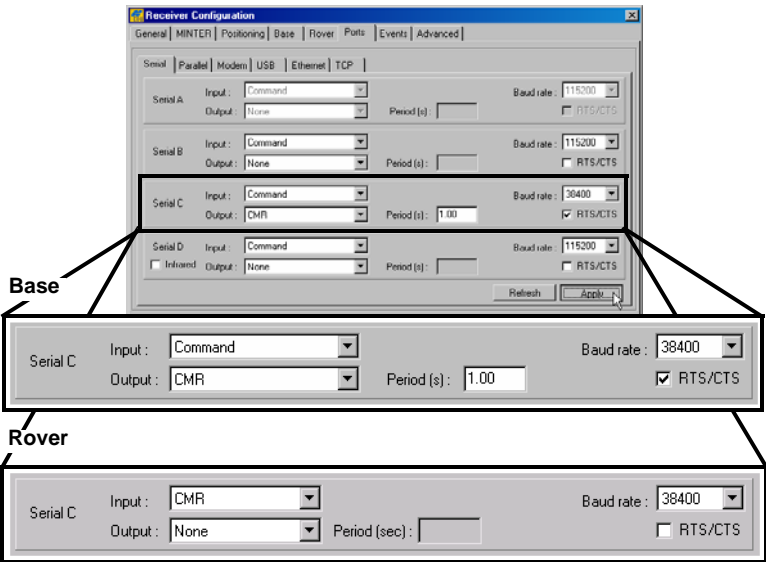

Figure 3-14. Base and Rover Configuration for RTK Surveys – Ports
11. For RTK surveys, click the *Ports* tab and set the following port parameters for the serial port (Table 3-6), then click **Apply** (Figure 3-14 on page 3-18).